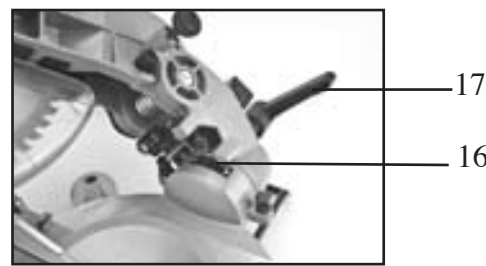

FIG 12
To bevel the cutting head, loosen the bevel lock handle (17) at the rear of the miter saw, tilt the cutting arm to the desired angle, and then tighten the lock handle. Like the miter scale, each line on the bevel scale represents one degree of movement. The angle setting is indicated by a stationary red pointer and the bevel angle position of the cutting arm is determined by the position of the red pointer to a line on the bevel scale. Positive stops are provided at 90° and 45° for quick adjustments. (FIG 12)